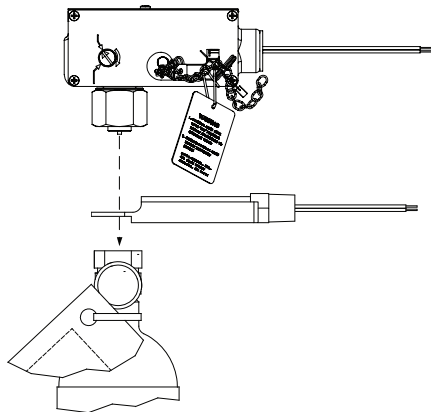

Figure 6. Order of Installation
7. Insert the Control Head Monitor between the control head and the cylinder valve actuation port as shown in Figure 6.